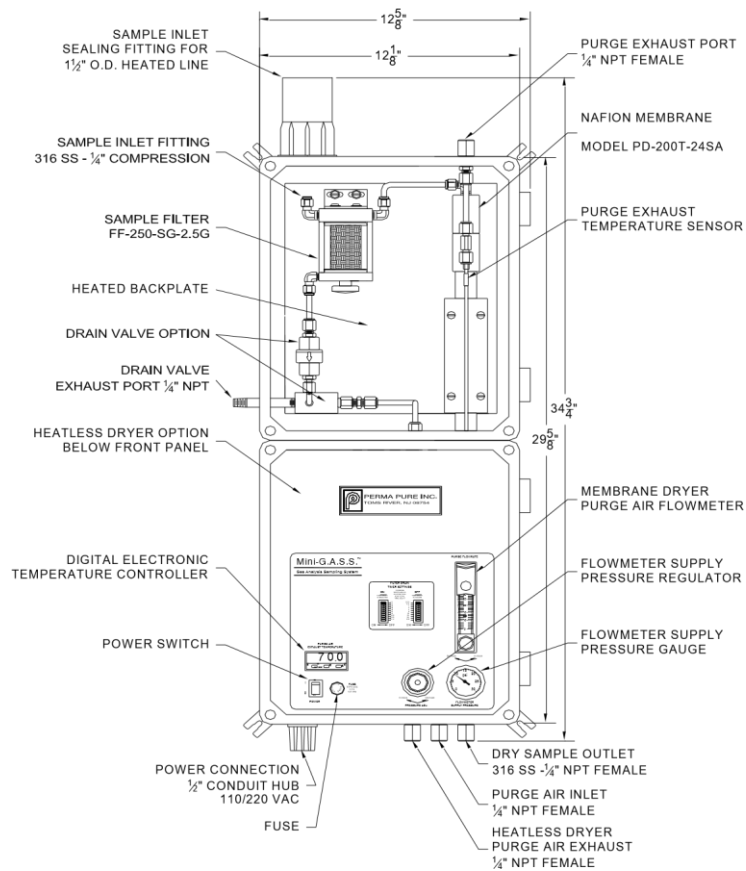

Figure 3 - Mini-GASS Sampling System
2. A ¼" FNPT bulkhead fitting on bottom of enclosure is the heatless dryer purge air exhaust, see figure 3. Humid air can be vented to atmosphere or piped to a remote location. Use suitable size piping.